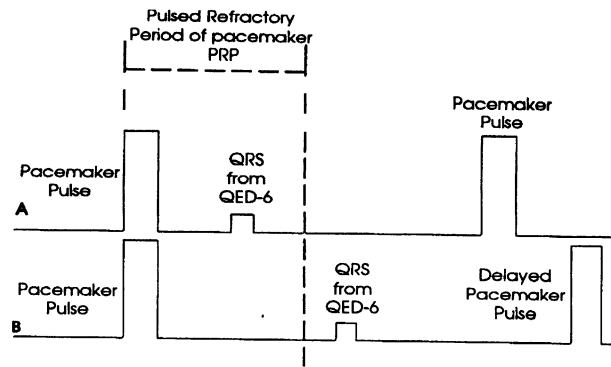

Figure 5.3. Pulsed Refractory Period
- A. In *Section A* of *Figure 5.3*, the QRS complex delivered from the QED-6 is within the refractory period of the pacemaker. The QRS from the QED-6 has no effect on the next pulse from the tested pacemaker.
B: In **Section B** of **Figure 5.3**, the same pacemaker is being tested, but the QRS from the QED-6 is now on the opposite side of the line that indicates the pacemaker's Pulsed Refractory Period.